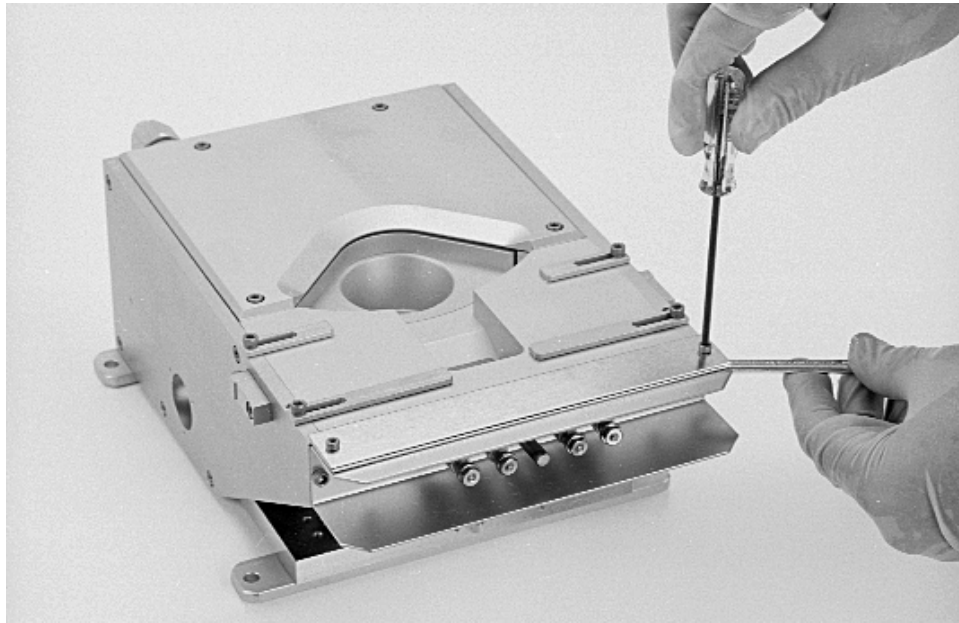

Figure 6-2. Removing the shunt
Step 2: Remove shunt(s), if present, from top of coil shield. To do so, turn the 6-32 1/2" mounting screws while holding the securing nuts with a 1/4" end wrench, as shown in Figure 6-2.